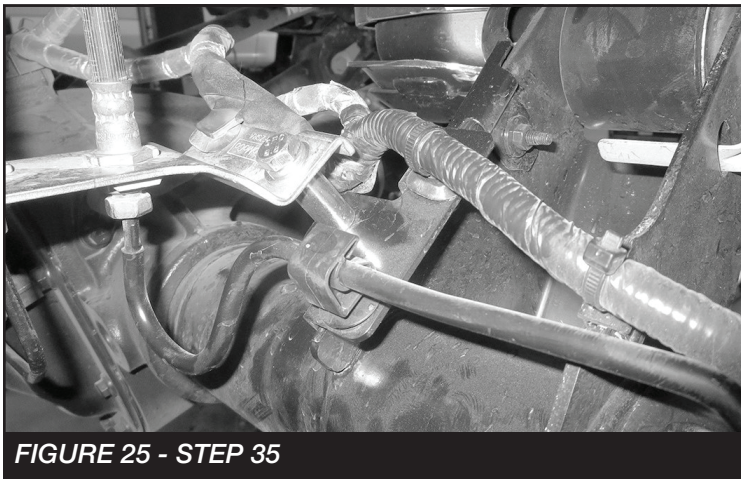

FIGURE 25 - STEP 35
41. Reinstall the new Fabtech bracket using the factory bolt and the supplied 7/16" hardware. Torque the factory bolt to 160 ft-lbs and the 7/16" hardware to 65 ft-lbs. **SEE FIGURE 25**